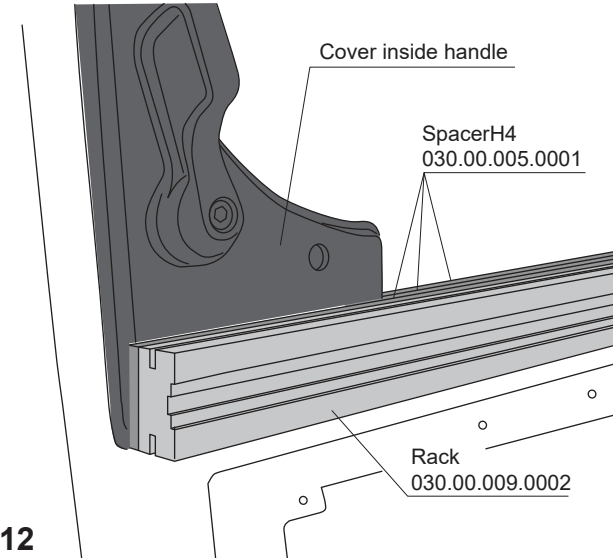

Fig. 12
2. 1205 mm (over the inside handle cover, Fig. 12 and 13)